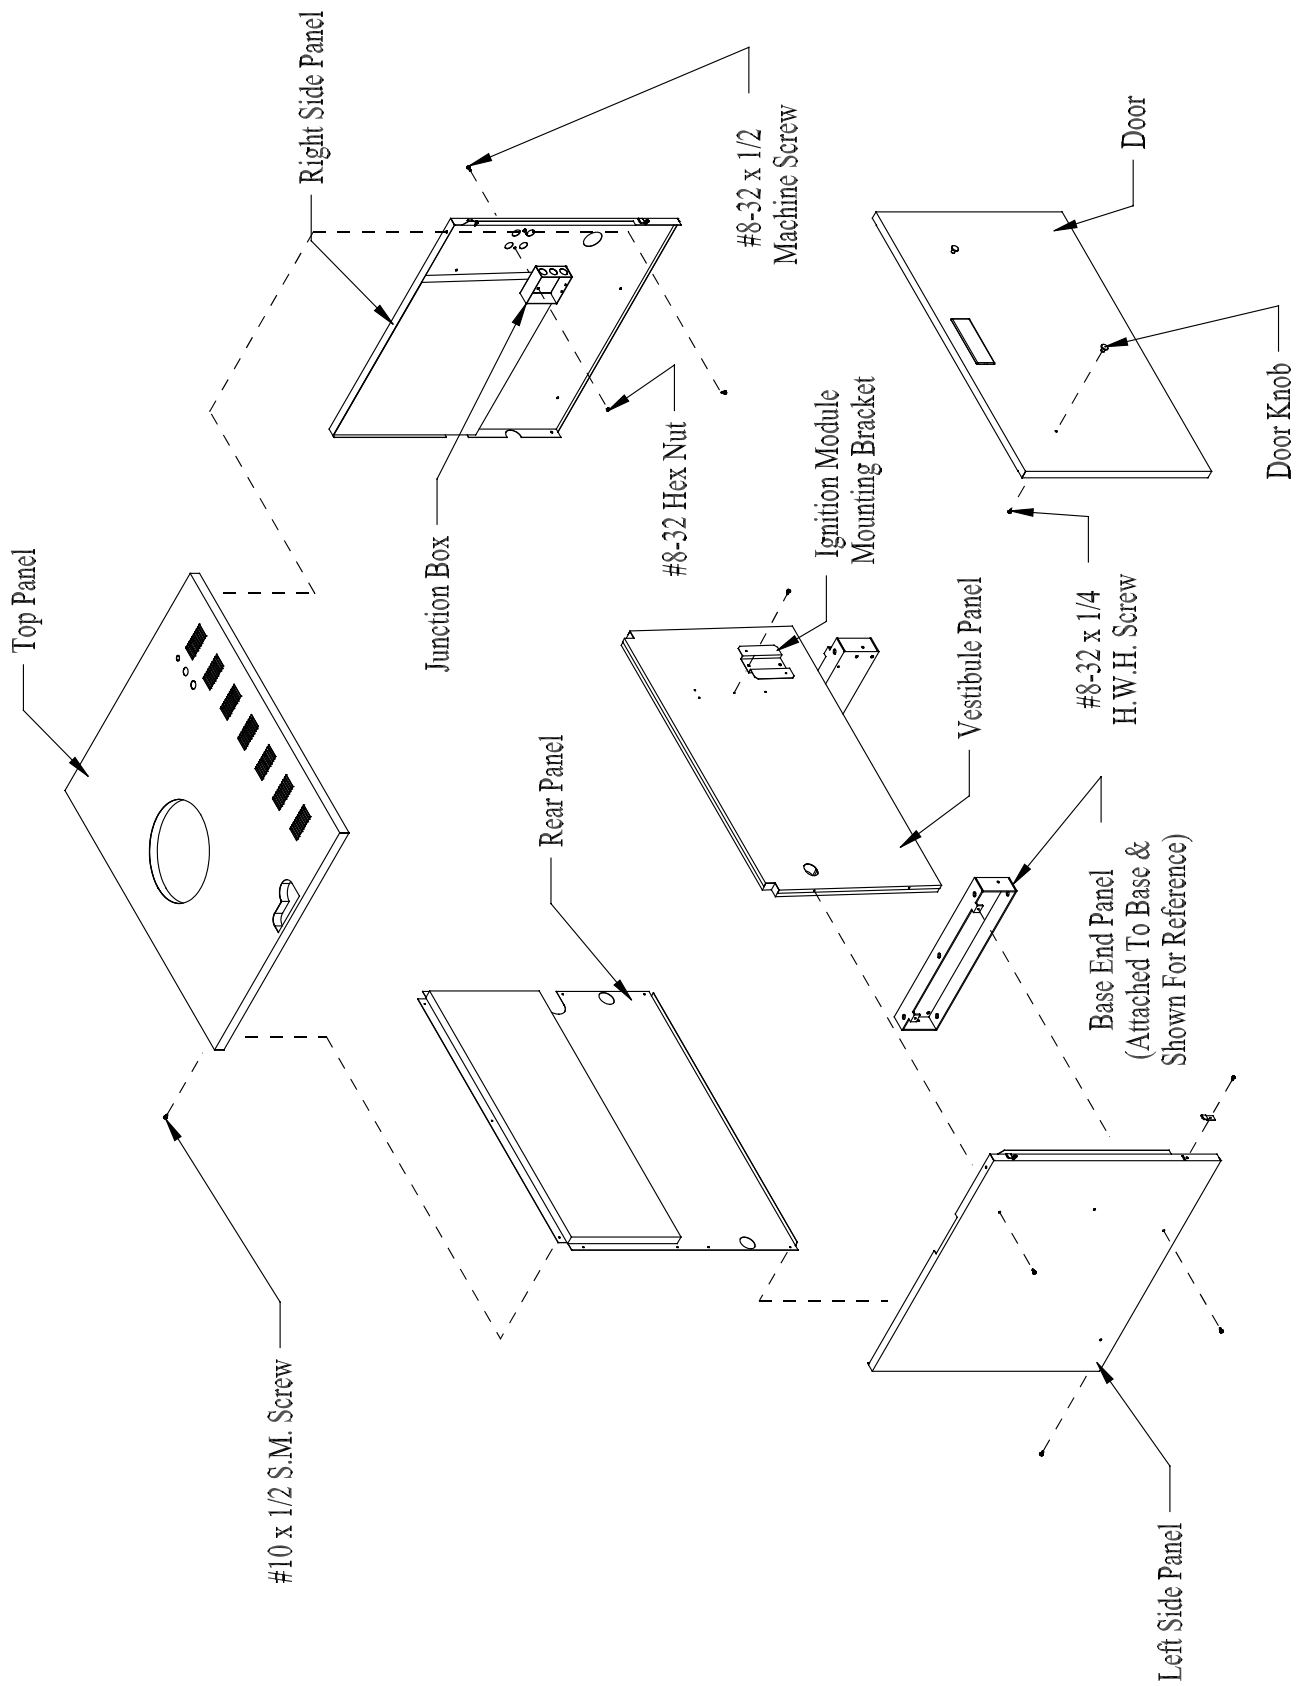

Figure 6: Jacket Assembly
- 1) Align the left jacket side panel with the screw holes located on the upper flange of the left base end panel and loosely attach the left jacket side panel with two #10 x 1/2" sheet metal screws as shown in Figure 6.
- 3) Insert the left and right sides of the jacket rear panel behind the rear flange located on the left and right jacket side panels and loosely attach it to the side panels using eight #10 x 1/2" sheet metal screws (four per side) as shown in Figure 6.
- 4) On the front of the boiler insert the jacket vestibule panel between the left and right jacket side panels. Align the screw holes located on the side flanges of the jacket vestibule panel with the screw clearance holes on both the side panels and loosely attach the vestibule panel with four #10 x 1/2" sheet metal screws (two per side) as shown in Figure 6.
- 5) Lay the jacket top panel on top of the jacket side and rear panels. Locate the top of the rear jacket panel to the inside of the jacket top panel. Align the sides of the jacket top panel to be flush with the outside of the jacket side panels. Loosely attach the rear flange of the jacket top panel to the jacket rear panel using three #10 x 1/2" sheet metal screws. On the inside front of the boiler, attach the jacket top panel to the jacket side panels with two #10 x 1/2" sheet metal screws (one per side) as shown in Figure 6.
- 4) Attach the ignition module bracket to the jacket vestibule panel using (2) #10 x 1/2" sheet metal screws. See Figure 6.
- 5) Attach the Honeywell S8610M ignition control module to the ignition module base using (4) #8 x 1/2" sheet metal screws.
- 5) Attach the UT 1003-612A ignition control module to the ignition module base using (4) #8 x 1/2" sheet metal screws.
- 6) Attach the UT daughter board mounting bracket to the jacket vestibule panel using (2) #10 x 1/2" sheet metal screws.
- 7) Attach the UT 1145-2 daughter board to the daughter board mounting bracket using (2) #8-32 x 1/2 screws and hex nuts.
- a. 4 x 4 Junction Box - Install the supplied junction box on the inside of right jacket side panel with two 8-32 x 1/2" machine screws and nuts. See Figure 6.